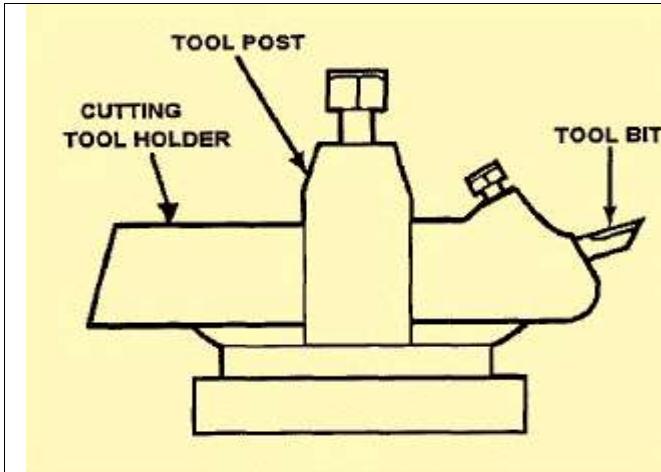

Figure 7-14. Tool holder with a tool bit mounted in a tool pose.
**The Tool Post:** Consists of the post, screw, washer, collar, and rocker, and fits into the T-slot of a compound rest. The lathe tool holders are designed to securely and rigidly hold the tool bit at a fixed angle for properly machining a workpiece and come in various types for different uses. (Figure 7-14).